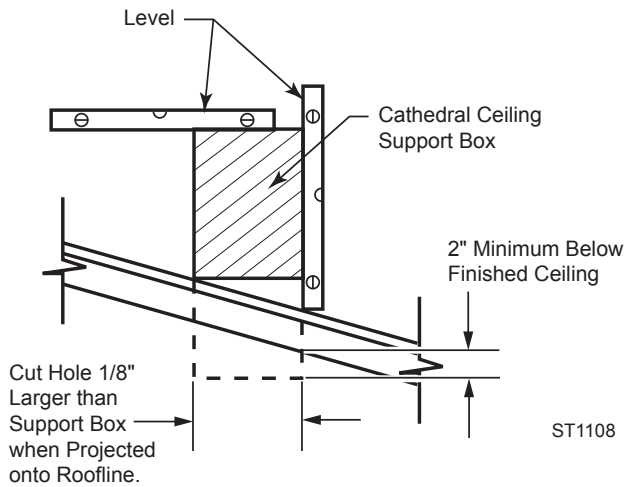

Figure 22 - Cathedral Ceiling Support Box Installation
2. Cut the hole 1/8" larger than the support box outline. *Figure 22*
3. Lower the support box through the hole in the roof until the bottom of the box extends at least 2" (mm) below the ceiling. *Figure 22*. Align the support box vertically and horizontally using a level. Temporarily tack the support box in place through the inside walls and into the roof sheathing.